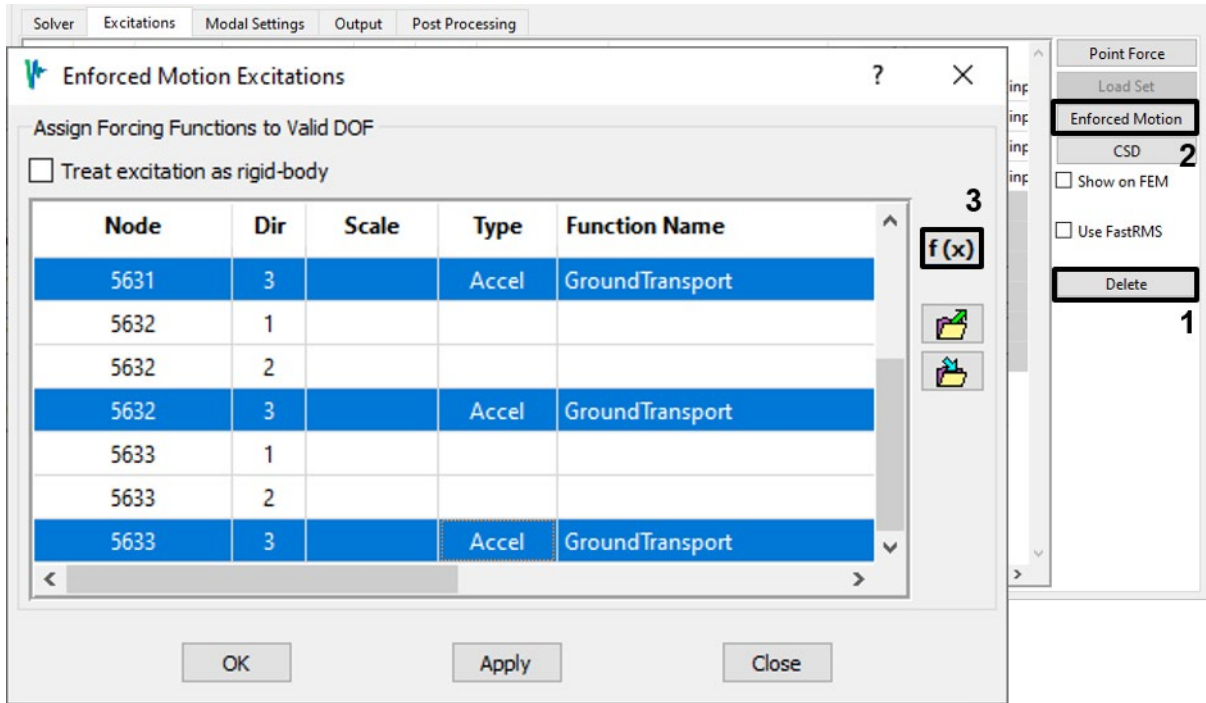

Figure 4-54. Apply enforced motion in the Z direction at all four base nodes.
- Go to the *Excitations* tab. First, select the existing excitation and **delete it**; the node at which it is applied does not exist in this model. Next, open the *Enforced Motion* dialog and select the Z-direction DOF for all four nodes in the list. Use the Function Manager to assign the ground transport PSD function created in section 4.3.1 to these DOF (Figure 4-54).